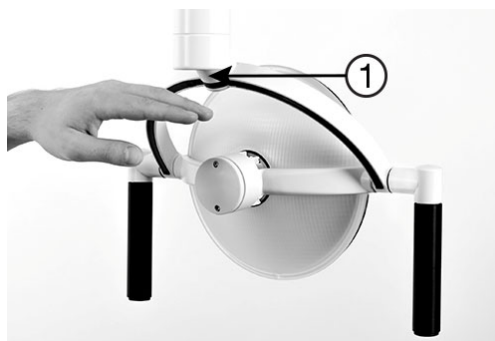

Figure 47 – No-touch sensor
Manage the light manually by activating the no-touch sensor under the light head – see Figure 47 (1).